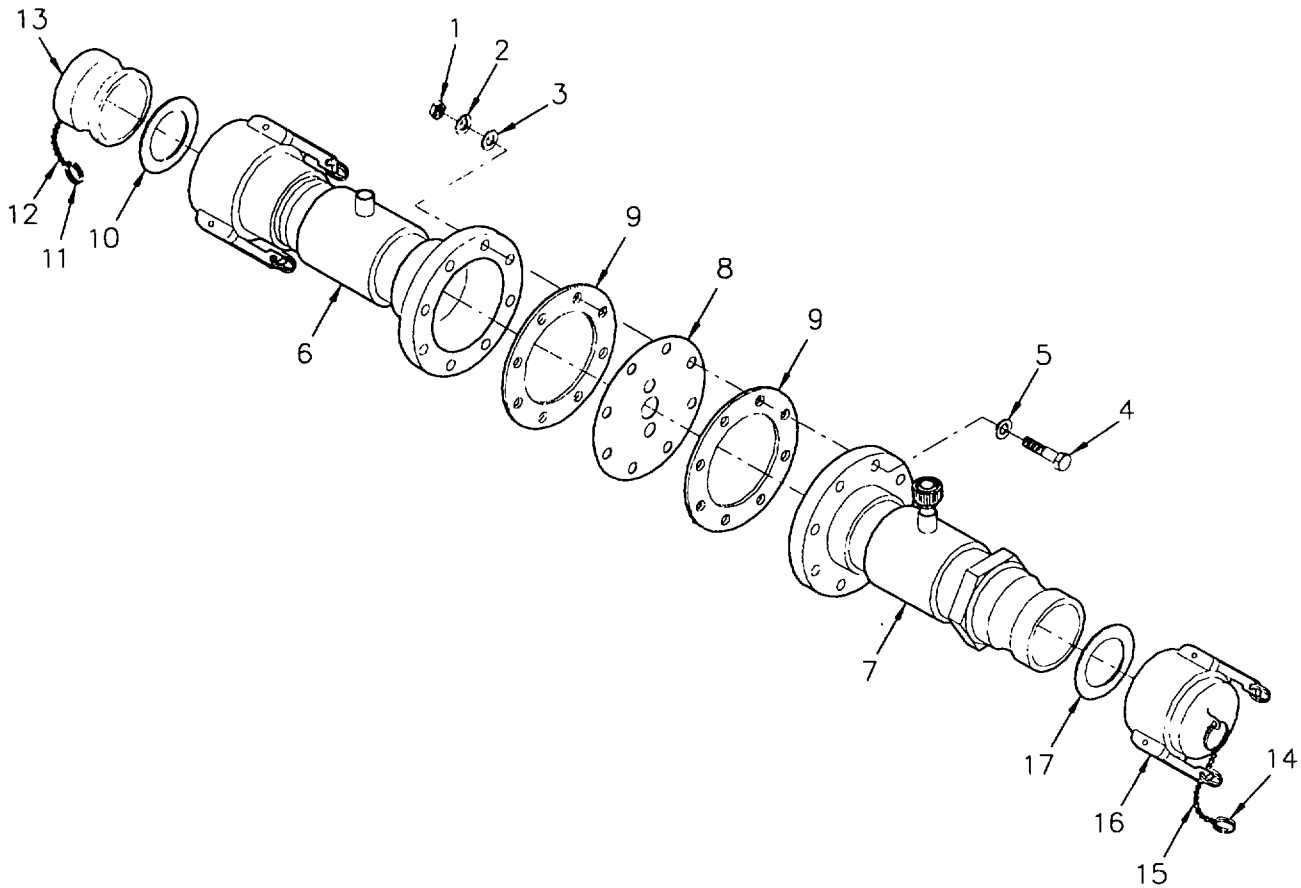

Figure 4-6. Manifold Disassembly
- (1) Remove six hexnuts (1, Figure 4-6), six lockwashers (2), six flat washers (3), six capscrews (4), and six flat washers (5).
- (2) Separate manifold assembly halves (6 and 7), and remove orifice plate (8) and two gaskets (9).
- (3) Remove gasket (10), two split rings (11), chain (12), and plug (13) from manifold half (6).
- (4) Remove two split rings (14), chain (15), and cap (16) from manifold half (7).
- (5) Remove gasket (17) from cap (16).